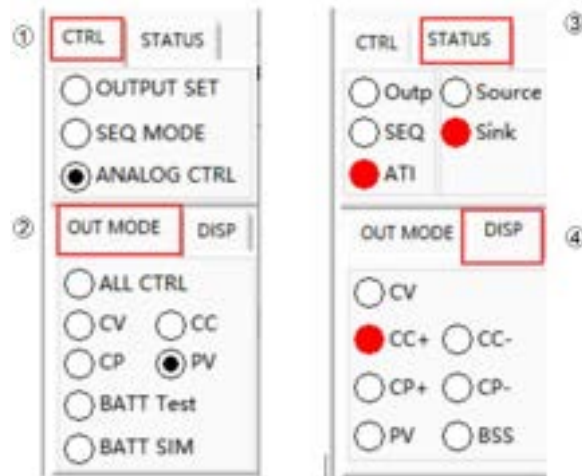

Figure 5-2 Control Mode/Output Mode/Status
On the right side of the output setting and the sequence, the user can select the operating mode of the power supply according to test requirements (Figure 5-2), and the software will automatically display the current operating status (Figure 5-2).
In the output setting panel and sequence panel, there are some important controls to control the input/output of the power supply in the lower right part (Figure 5-2③). Click "Apply" → "Power On" → "DC Output" → "Output Switch", the power supply starts to work normally; click "Output Switch" → "DC Output" → "Power On", the po equipment wer supply stops working.